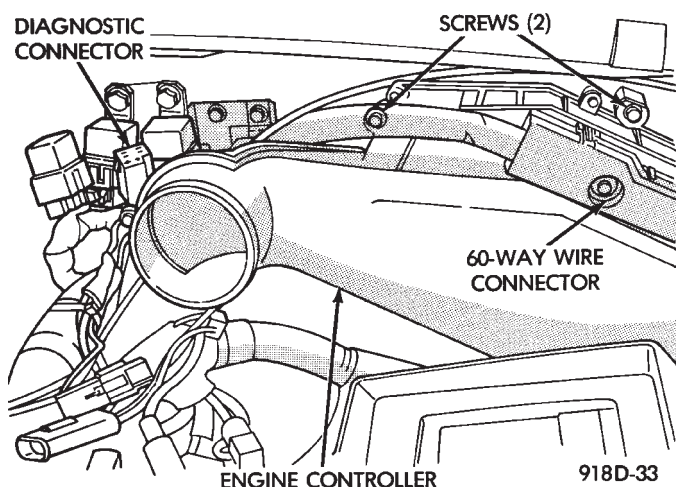

Fig. 13 Engine Controller Electrical Connector
(17) Check the 60-way electrical connection at the engine controller for damage or spread terminals. Verify that the 60-way connector is fully inserted into the socket on the engine controller (Fig. 13). Ensure that wires are not stretched or pulled out of the connector.